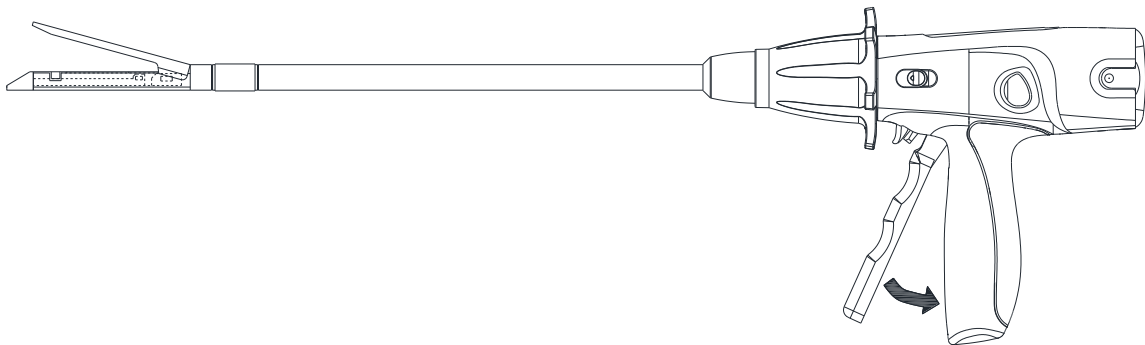

Figure 3-5
- 1) Close the device jaws by squeezing the closing trigger until it locks into place (Figure 3-5). Hearing a "click" indicates that the closing trigger and the jaw have been locked in place.